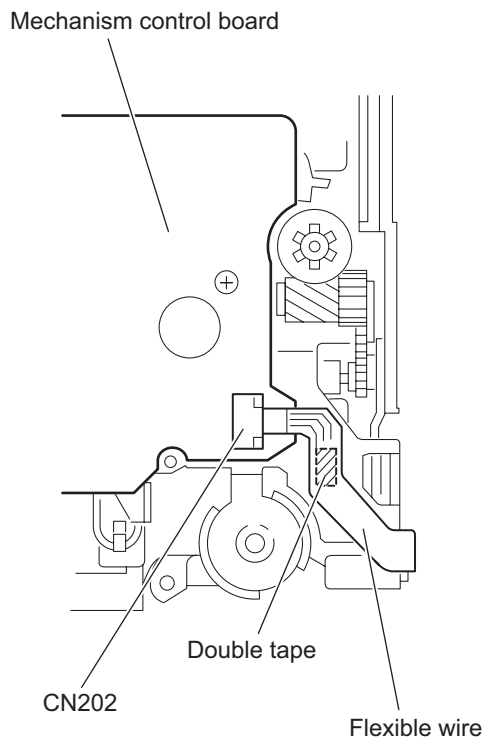

Fig.10
### 3.3.6 Removing the front unit (See Fig.10 to 12)
- Disconnect the flexible wire from connector CN202 on the mechanism control board at the bottom of the body. (See Fig.10.)
When reassembling, attach the flexible wire extending from the switch board using the double tape. (See Figs.10 and 12.)